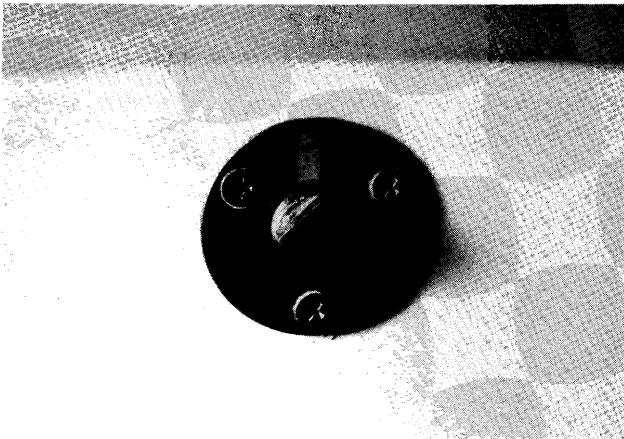

Figure 34
3. Install the hull drain plug. See figure 34.